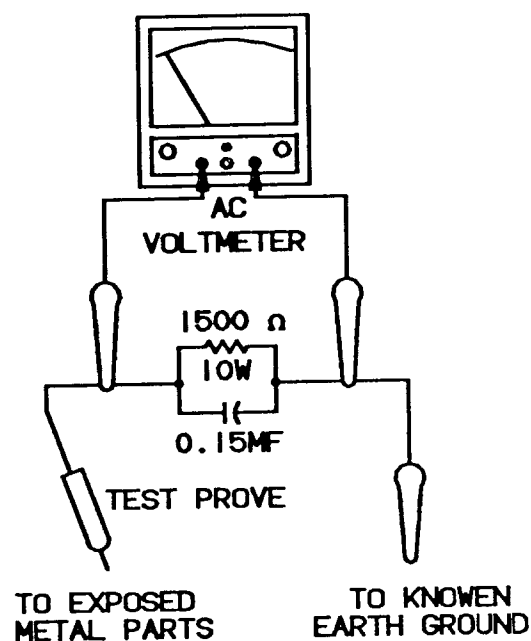

FIG. 1 LEAKAGE CURRENT TEST CIRCUIT
- Use a SSVM or VOM with 1000 ohms per-volt or higher sensitivity to measure the AC voltage drop across the resistor. (See Figure 1.)